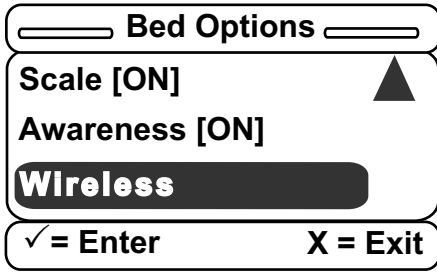

Figure 42 – Bed Options menu
18. After you set the Awareness option, you will return to the Bed Options menu to set the Wireless option (Figure 42).